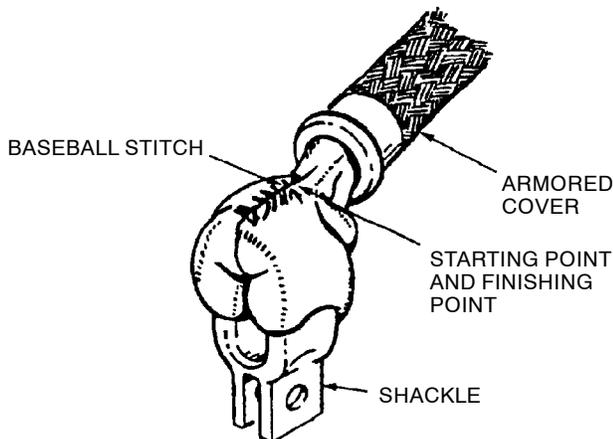

Figure 17. Whipstitch Edges Together
b. Using size FF thread, doubled and waxed, whip-stitch edges together (Figure 17). Stitches to be about 1/8-in. and 1/8-in. from edges of withdrawal line. Normally, only six stitches will be required. Tie off. (QA)